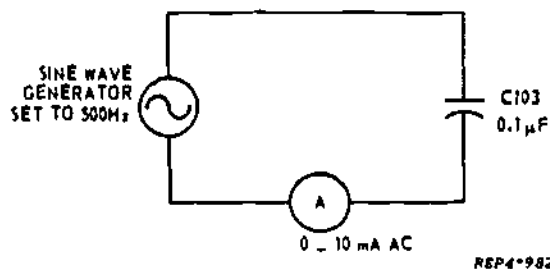

Figure 1-1
- (b) SQUARE WAVE AMPLITUDE control-slightly clockwise (CW) to ON position.
1. Connect the capacitive circuit as shown in figure 1-1.
1. Using the circuit in figure 1-1, adjust the amplitude of the sine wave until the output is 8 V AC at the output terminals of the sine wave generator.